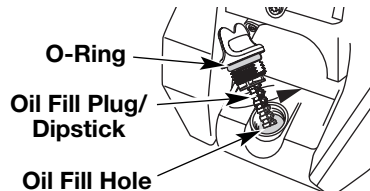

Fig. 6
3. Remove the dipstick from the crankcase (Fig. 6).
4. Pour the entire bottle of oil into the oil fill hole (Fig. 6).